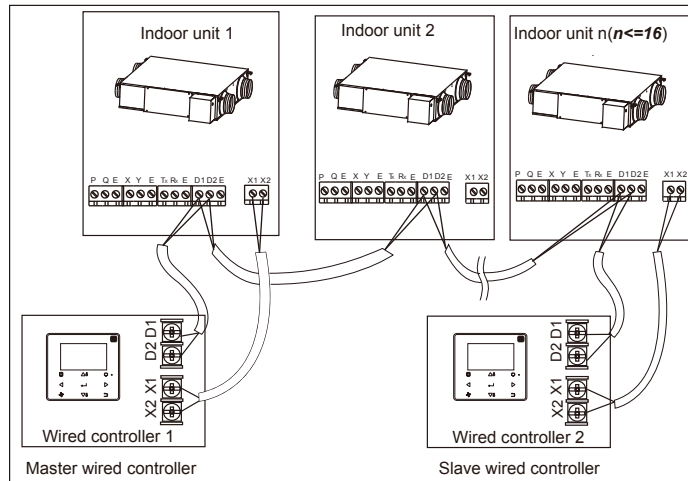

Fig. 4-5
- Use 1 wired controller to control multiple indoor units or 2 wired controllers (one master and one slave controller) to control multiple indoor units. The maximum number of connections is 16.(see Fig.4-5)